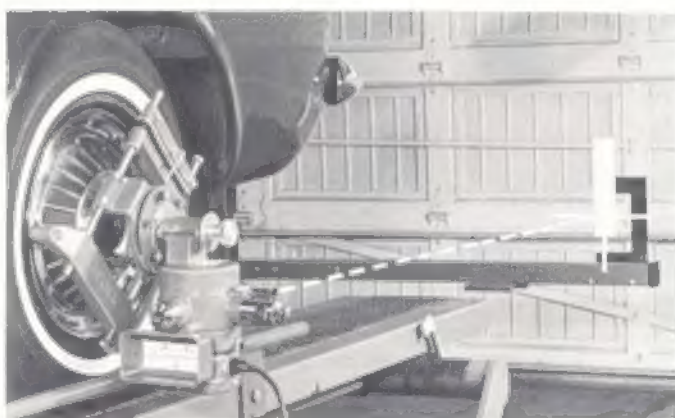

FIGURE 47
A. Using Model L-80-3-S Rear Toe Gage (Figure 47)—